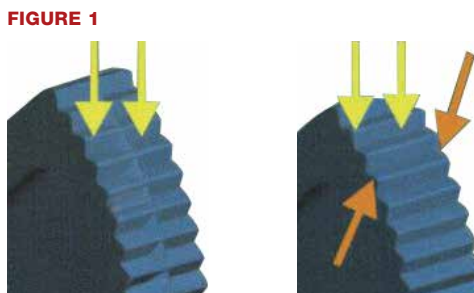

FIGURE 1
**Figure 1.** When the load on round pads twists, the narrow jaw resists it. This places very high loads on the edge of the jaw, which is not designed to sustain this pivoting load.